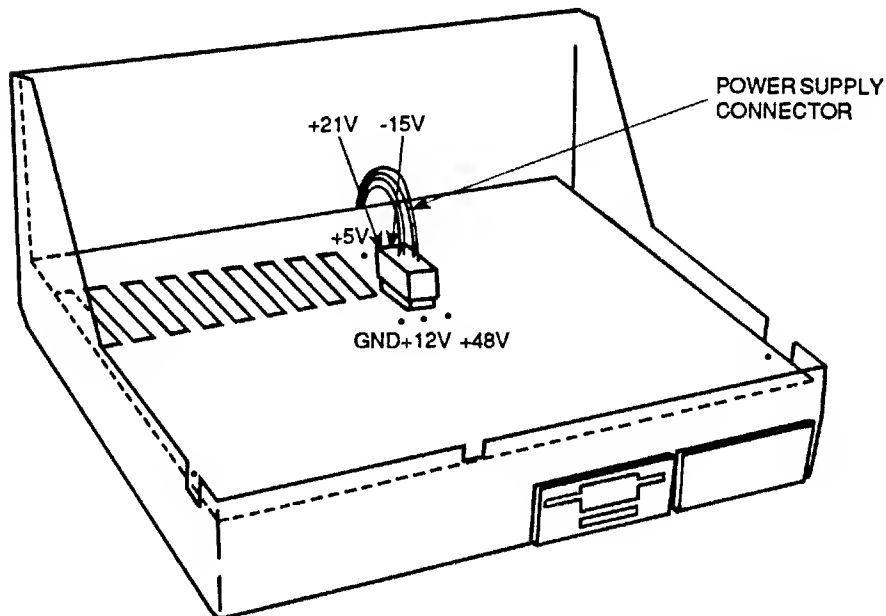

Figure 4-2. Power Supply Outputs
- b. With the power supply connector plugged in (J22), measure all five of the power supply's outputs, located next to J22 on the Controller board (see figure 4-2). Table 4-3 shows the allowable values for each supply. If the measured values are not within those measured in the table below, you may have a bad power supply: contact your nearest Data I/O Service office.